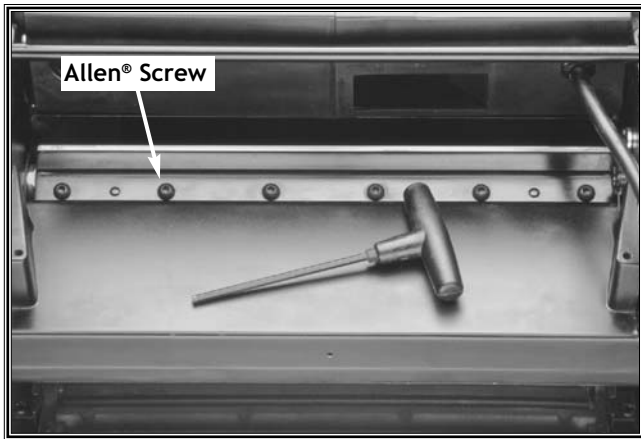

Figure 18. Remove six screws from the knife binder.
5. Use the T-handle Allen® wrench that is included with the planer to remove the six screws from the knife locking plate. See **Figure 18**.